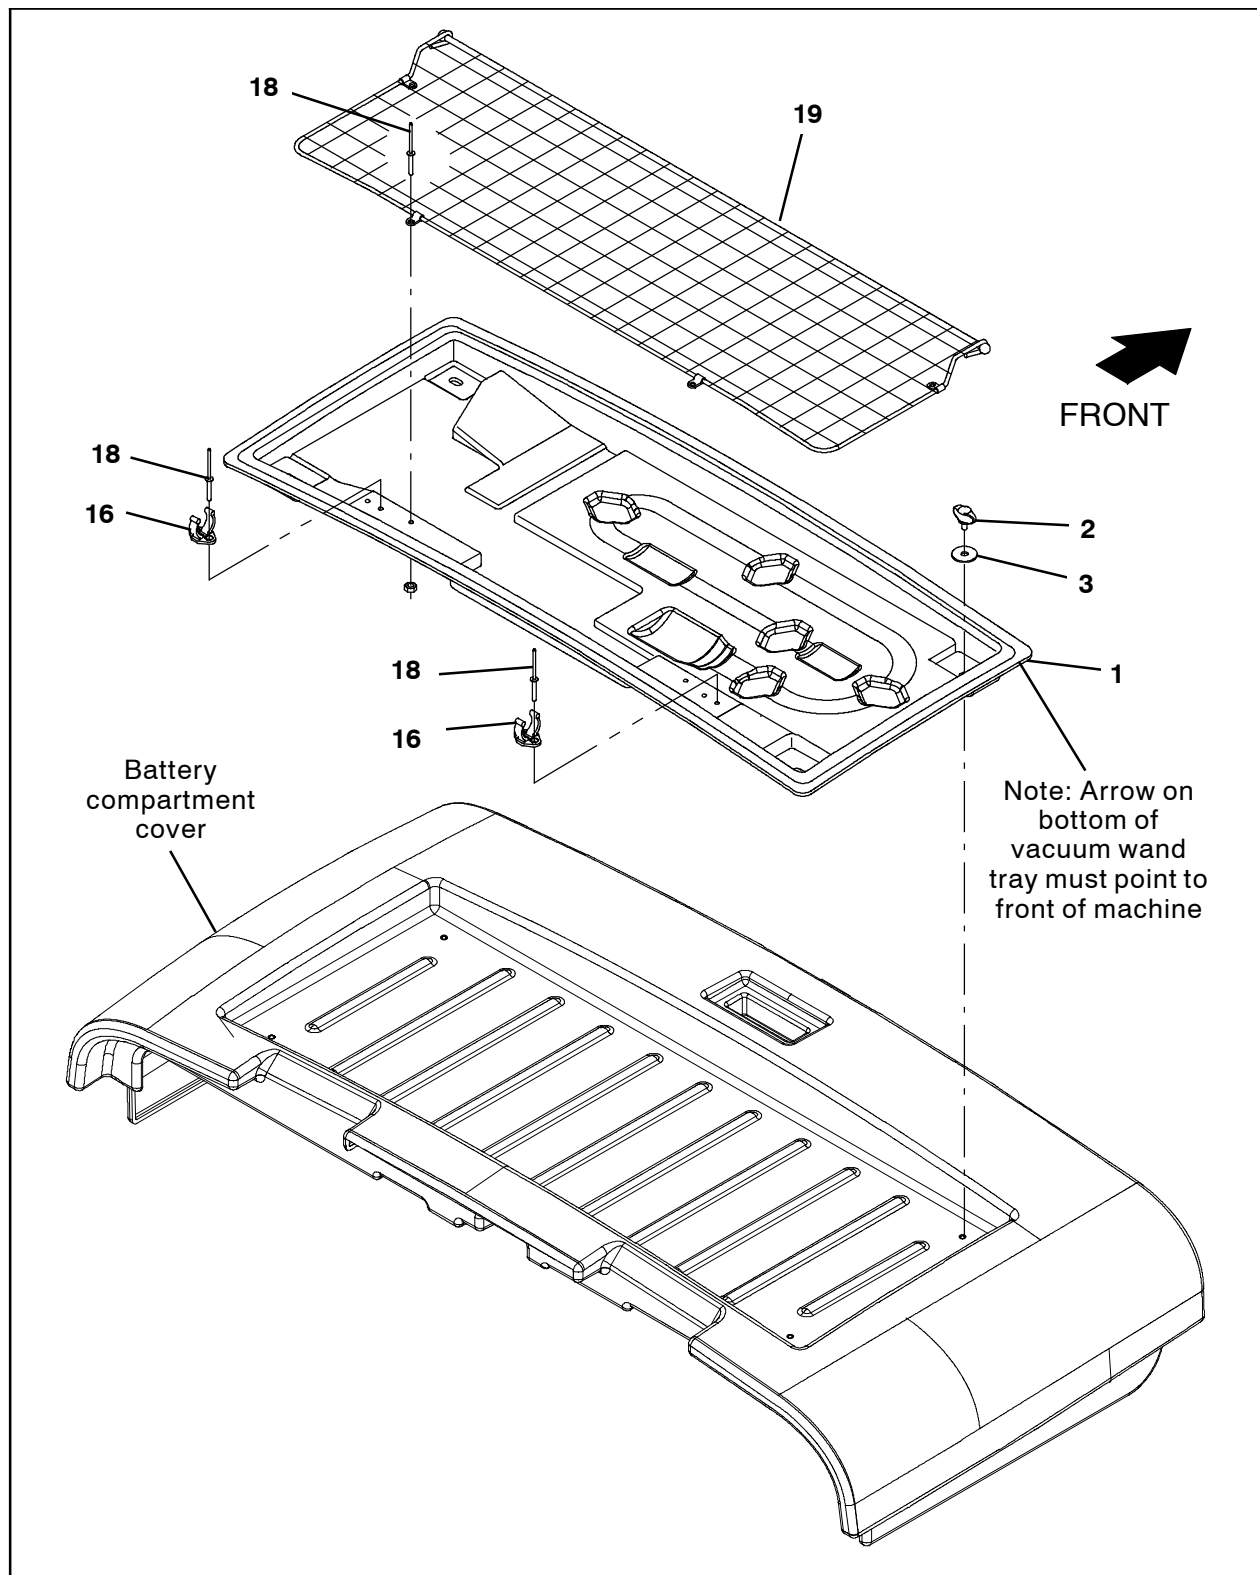

FIG. 4
7. Use two rivets (18) to install both clips (16) onto the vacuum wand tray (1). (Fig. 4)
8. Use four rivets (18) to install the mesh (19) onto the vacuum wand tray (1). (Fig. 4)
9. Use four knobs (2) and four flat washers (3) to install the vacuum wand tray (1) onto the battery compartment cover. (Fig. 4)